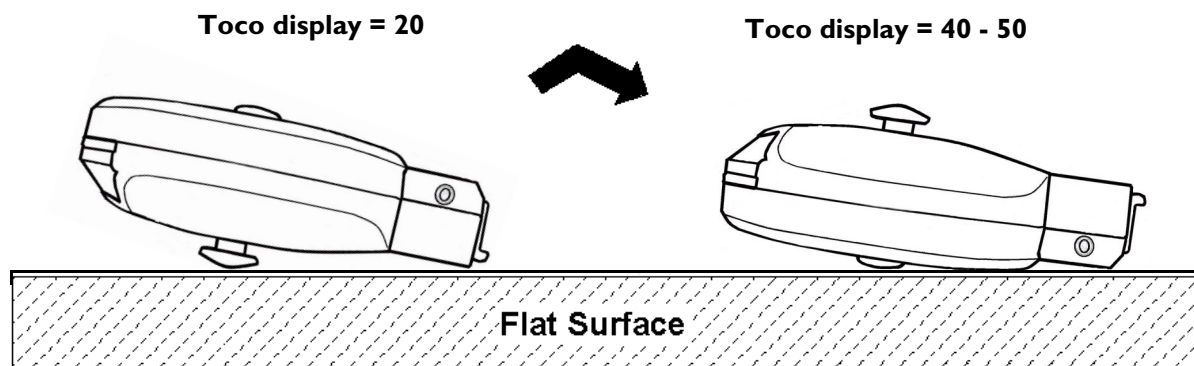

Figure 7 Checking a Toco Transducer
- 3 Lay the transducer face up on a hard, flat surface for a few seconds, so that the belt button and the take-out aid end of the transducer make contact with the surface (see Figure 7 on page 58).
- 5 Turn the transducer over so that the Toco sensor is resting on the flat surface. The transducer will always adopt the same, slightly inclined position, with the take-out aid end of the transducer also resting on the surface (see Figure 7).